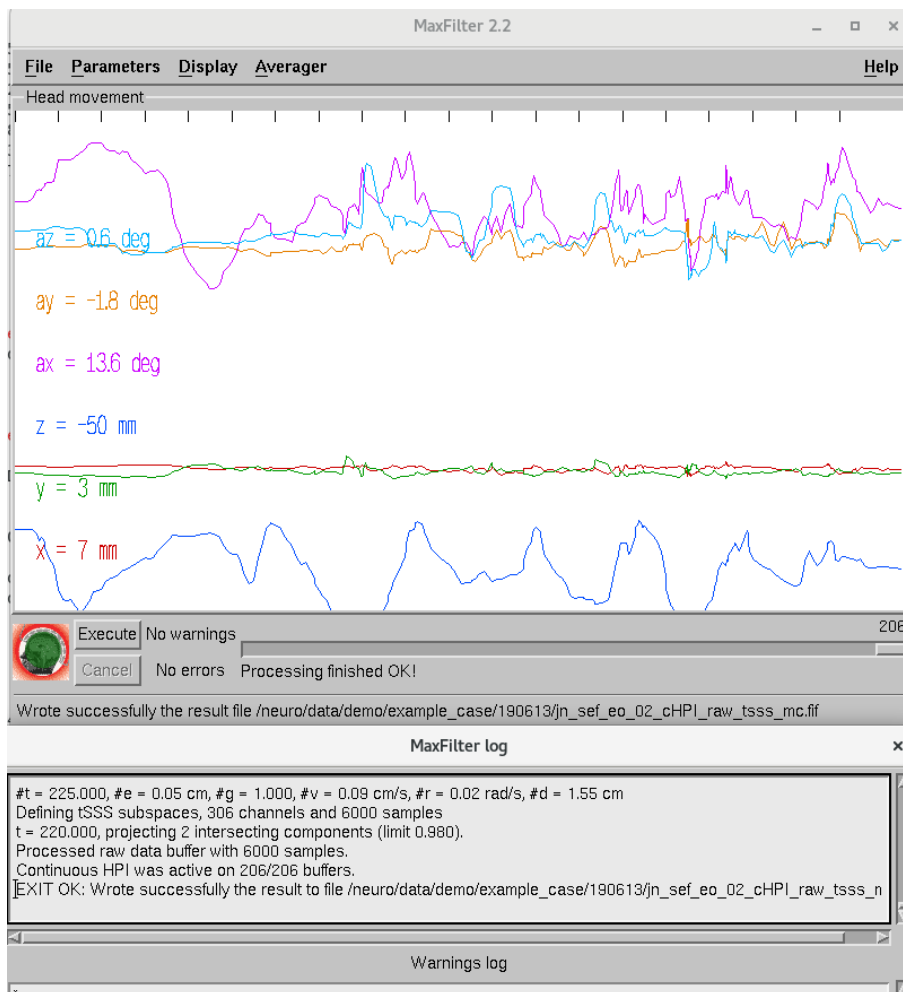

Figure 18: *MaxFilter* head position display and log window for the example case of Figure 17.
- When head positions are estimated for movement compensation, observe the head positions by selecting **Display -> Head positions...** (**Alt-d + h**) (Figure 18).